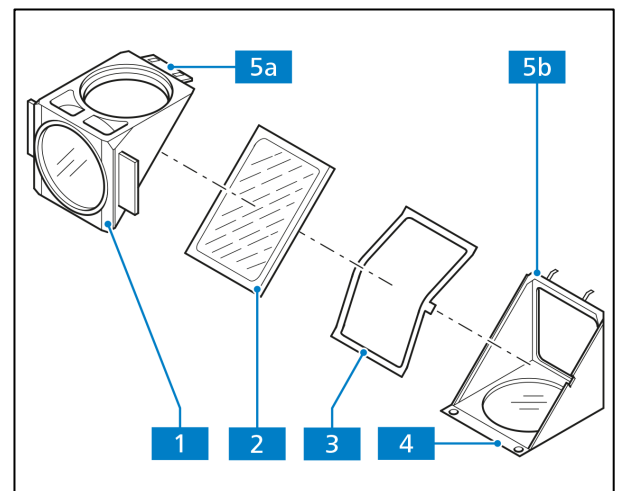

Fig. 3-44 Changing the color filter
- Now tilt the **excitation** part lying on top (Fig. 3-44/1) upward and lift the **emission** part (Fig. 3-44/4) from the holding fixtures (Fig. 3-44/5b).
- Remove color splitter (Fig. 3-44/2) and spring box (Fig. 3-44/3) from the bottom part of the module.
- Remove the old color splitter and carefully put the new splitter with the reflective coating facing upwards onto the spring box (Fig. 3-44/3). Put both pieces together into the bottom part of the module. Make sure that the side latch of the spring box is in the appropriate recess of the bottom part of the module.
- Place the **excitation** part of the module (Fig. 3-44/1) on the **emission** part (Fig. 3-44/4) – holding the fixtures (Fig. 3-44/5b) and eyelet (Fig. 3-44/5a) latches together. Hold both parts together and turn them back into mounting position.